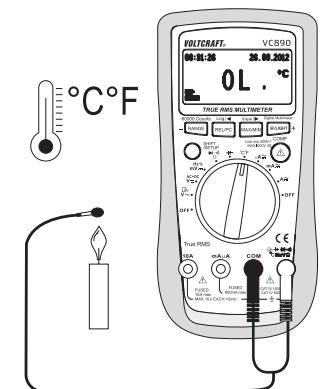

Fig. 9
2. Press the SHIFT/SETUP button (3) to switch to a display in $^{\circ}\text{F}$.
3. Insert the thermosensor with the correct polarity with the plus pole in the $^{\circ}\text{CHzV}\Omega$ measuring socket (7) and the minus pole in the COM measuring socket (8) (Fig. 9).